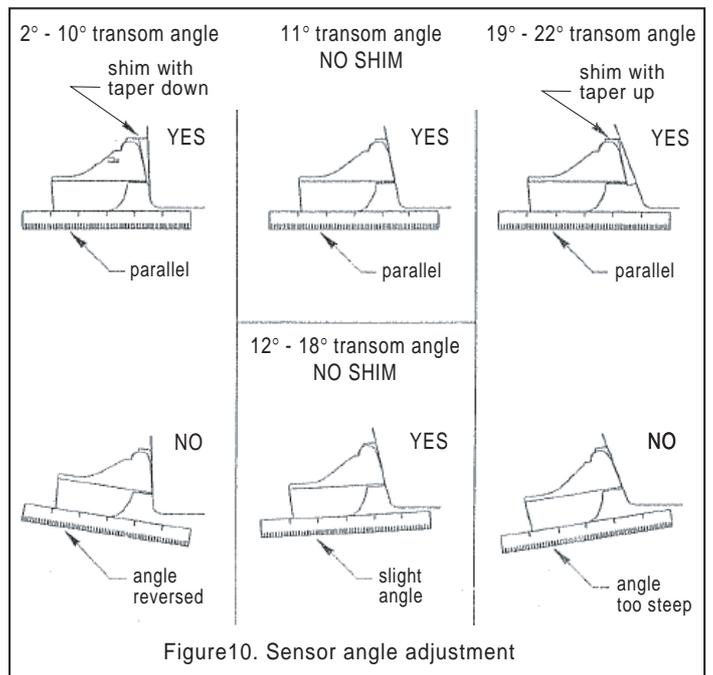

Figure10. Sensor angle adjustment
1. Using a straight edge, sight the underside of the sensor relative to the underside of the hull (see Figure10). The stern of the sensor should be 1-3 mm (1/16 – 1/8") below the bow of the sensor or parallel to the bottom of the hull.